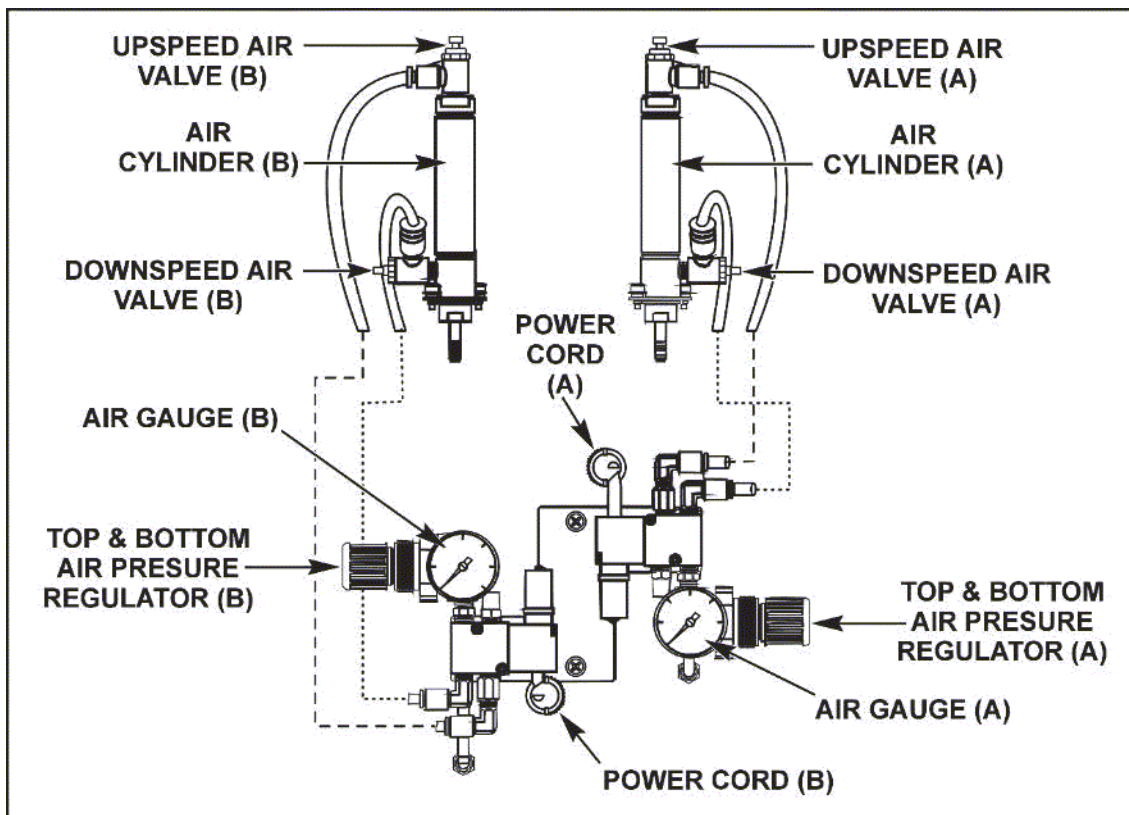

Figure 4-1. Typical Solenoid Air Valve System with Dual Regulators
- 4 Set the force indicator on all Miyachi Unitek weld heads to 3. For more detailed information on setting up each specific weld head, refer to their respective manuals. See figures 4-1 and 4-2 for illustrations of typical air actuated systems.